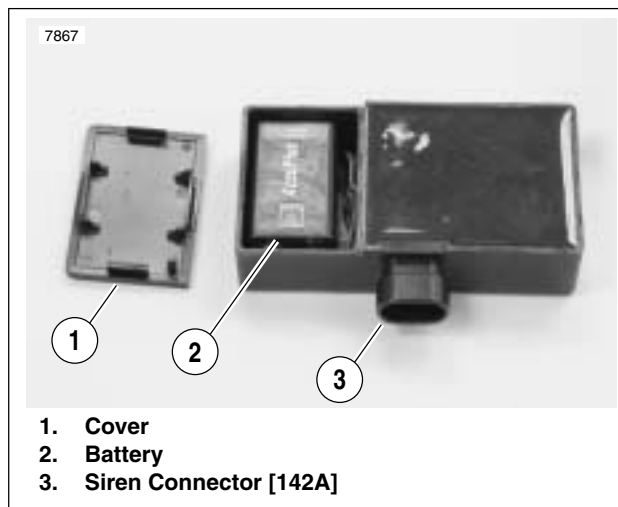

Figure 3-53. Siren Battery Compartment
2. See Figure 3-53. Remove battery cover.
3. See Figure 3-53. Replace battery by removing old battery from polarized battery clip. Install a **new** 9 volt nickel metal hydride battery.
4. See Figure 3-53. Reinstall battery cover.